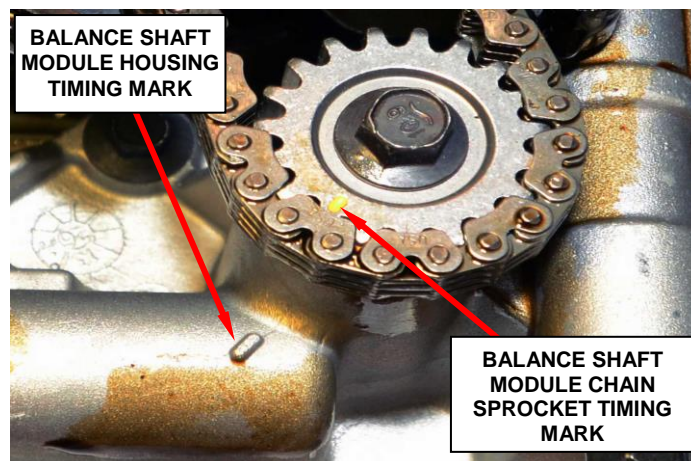

Figure 8 – Timing Marks
2. Verify that the mark on the balance shaft module chain sprocket aligns with the mark on the balance shaft module housing (Figure 8).